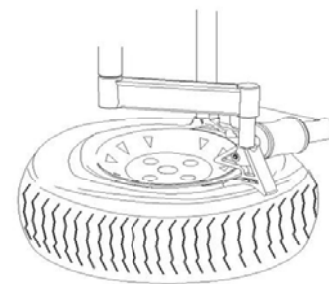

Fig 19
- 2) Rotate the roller support to move the tire pressing roller near the mounting head (about 3-4 cm). Position the tire pressing head (upper) about 90 degree with the mounting head. Lower the auxiliary arm to press the tire below the mounting head 3-5 mm with the tire pressing roller. Tread the corresponding pedal to turn the turntable in clockwise direction. Then the tire pressing head (upper) rotate together with the turntable to mount the tire.(Fig 19)